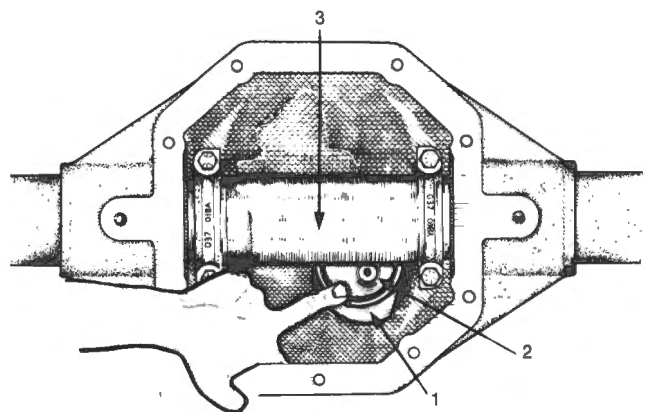

Fig. O-12
- 29 Select a shim which will just slide between the arbor and the dummy pinion head. Fig. O-12.